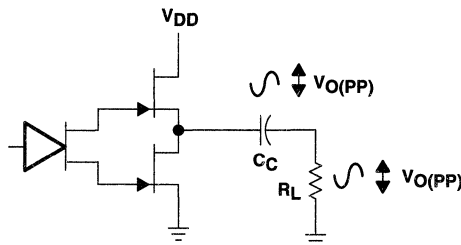

Figure 35. Single-Ended Configuration
In a typical computer sound channel operating at 5 V, bridging raises the power into a 8-Ω speaker from a single-ended (SE) limit of 250 mW to 1 W. In sound power that is a 6-dB improvement — which is loudness that can be heard. In addition to increased power there are frequency response concerns, consider the single-supply SE configuration shown in Figure 35. A coupling capacitor is required to block the dc offset voltage from reaching the load. These capacitors can be quite large (approximately 40 μF to 1000 μF) so they tend to be expensive, occupy valuable PCB area, and have the additional drawback of limiting low-frequency performance of the system. This frequency limiting effect is due to the high pass filter network created with the speaker impedance and the coupling capacitance and is calculated with equation 2.